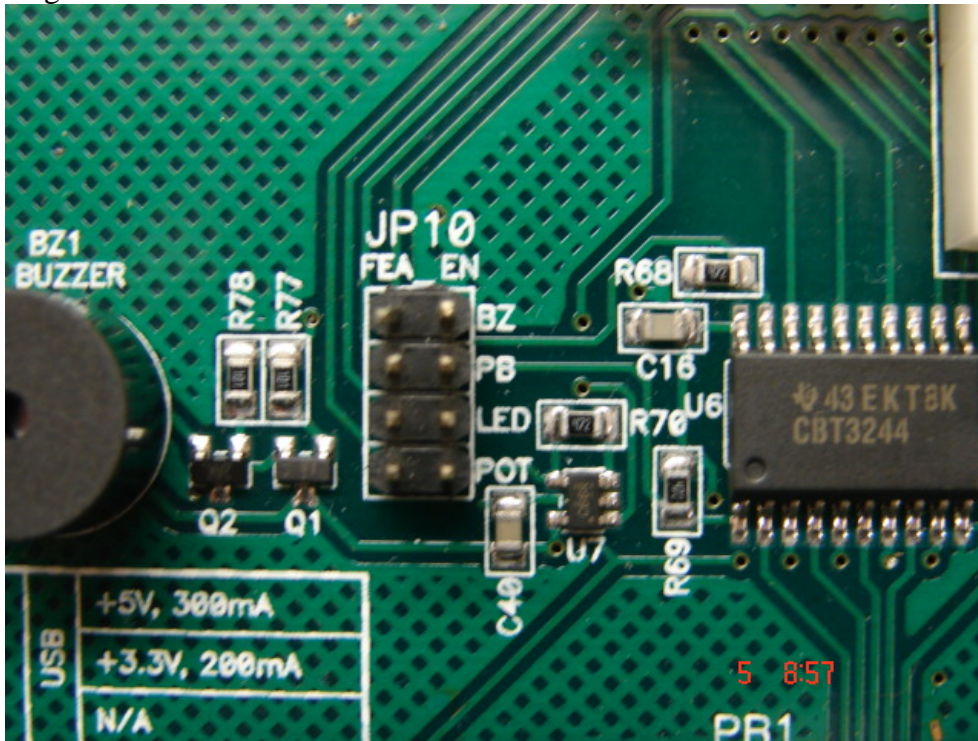

Figure 11 MCU Project Board option header FEA\_EN configurations
- ◆ Make sure all jumpers on option header FEA\_EN on MCU PROJECT BOARD 2 are unconnected as pictured in Figure 11.